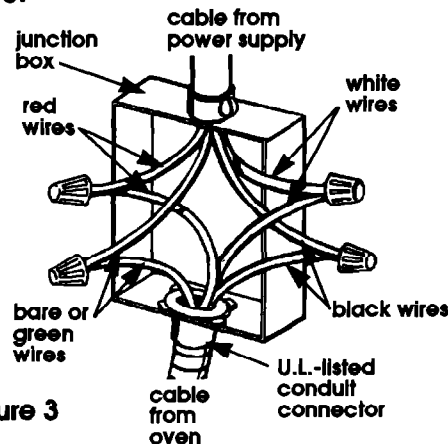

Figure 3
The installation of this oven must conform to the Manufactured Home Construction and Safety Standards, Title 24 CFR, Part 3280 (formerly the Federal Standard for Mobile Home Construction and Safety, Title 24, HUD Part 280) or when such standard is not applicable, the Standard for Manufactured Home Installation 1982 (Manufactured Home Sites, Communities and Setups), ANSI Z225.1-1984, or latest edition, or with local codes. A four-wire, power supply cord must be used in a mobile home installation. The appliance wiring will need to be revised. See "Electrical requirements," Figure 3, Panel B.
4. Connect the two black wires together; then connect the two red wires together with wire connectors. See Figure 3.